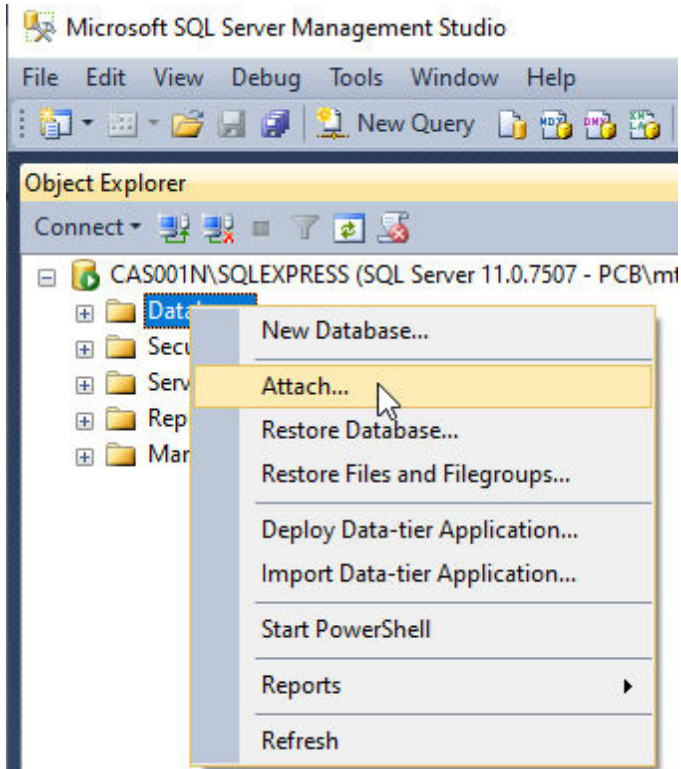

Figure 151 – SQL Server Database Attachment Dialog
- Right click the **Database** item to reveal the options shown in Figure 151 below